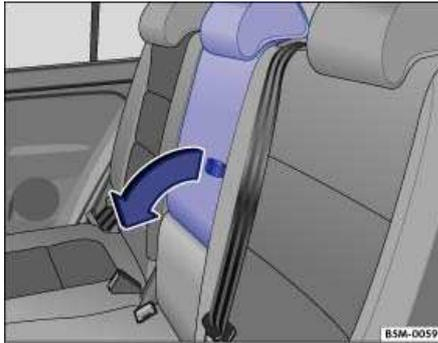

Fig. 67 In the backrest: fold the center armrest forward.
- Pull on the loop in the direction of the arrow ⇒ Fig. 67 and fold the center armrest forward.